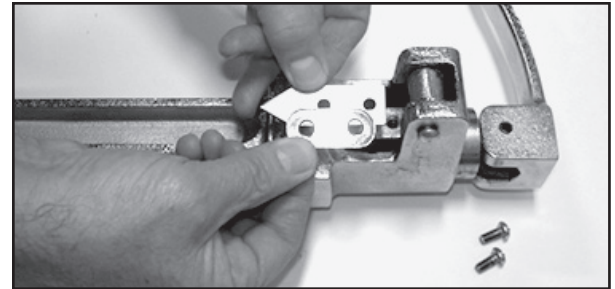

Figure 14
2. Place new knife blade on the holder and then the support plate over the knife blade. (Figure 14)